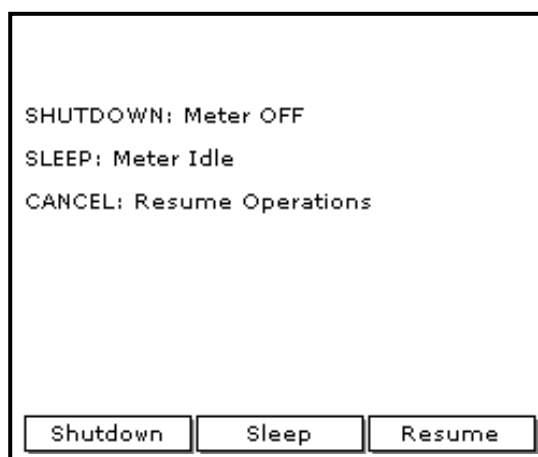

Figure 2: Shutdown Menu
1. To turn the PM880 off, press the red key for 3 seconds. The screen now appears similar to *Figure 2*.